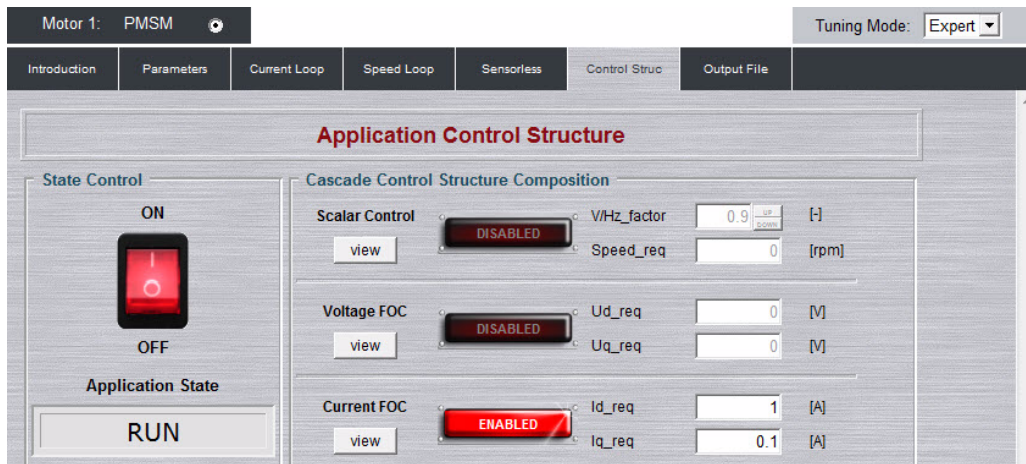

Figure 6. Generated and Estimated Positions
- Select the Control Structure tab, switch to Current FOC, set I_{q_req} to a very low value, for example 0.1, and set the required step to I_{d_req} . The control loop response is shown in the recorder, see Figure 6.